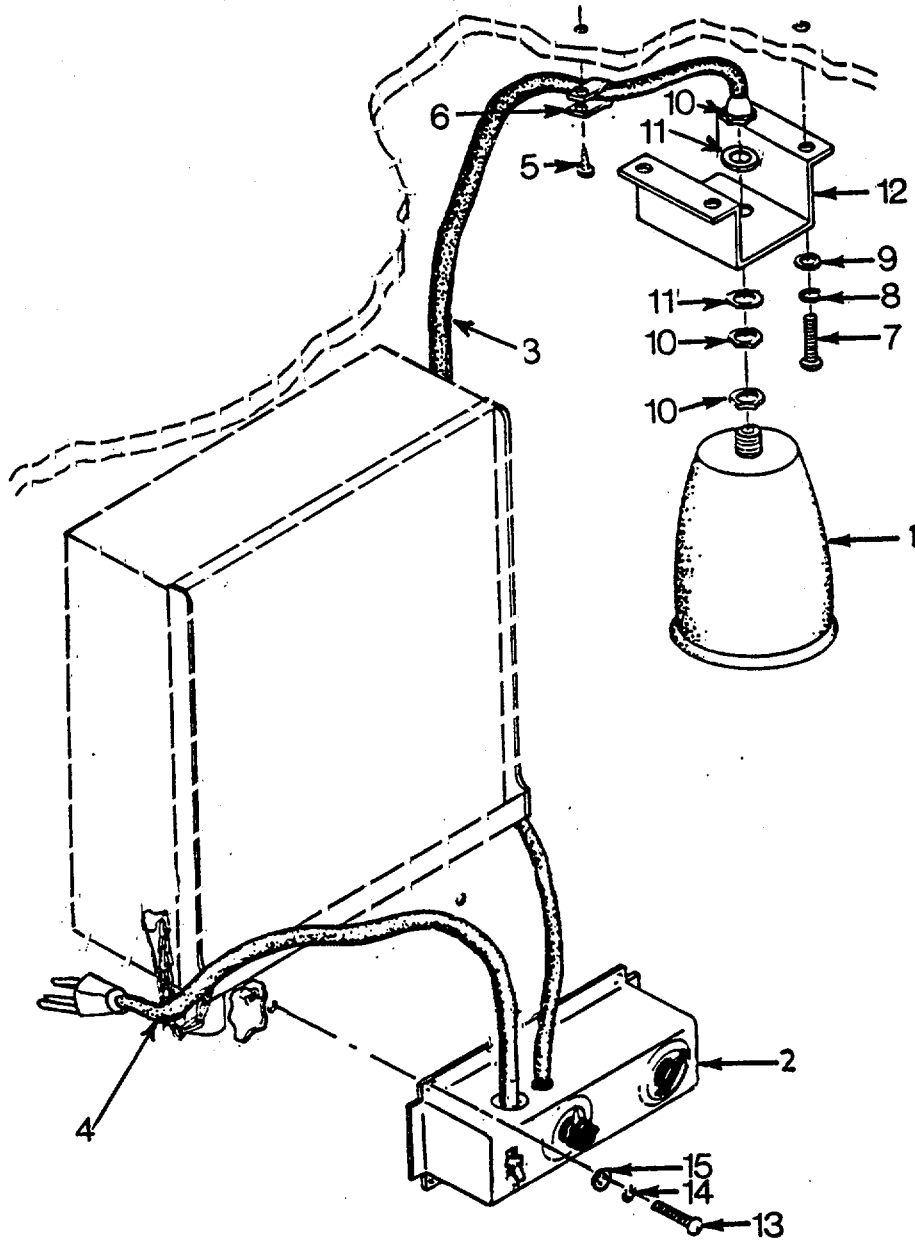

Figure 4-31. Pin-Point Light Assembly
a. Inspect. (See Figure 4-31.)
(1) Check darkroom pin-point light assembly (1) for security of mounting.
(2) Check darkroom timer (2) for security of mounting, broken or missing parts.
(3) Inspect power cord (3) for damage.
(4) Check light for proper operation.
(5) Inspect timer (2) power cord (4) for damage.
(6) Inspect timer control and intensity control for proper operation.
b. Replace. (See Figure 4-31.)
(1) Disconnect power cord (4) from wall receptacle.
(2) Remove screws (5) and cable clamps (6).
4-28. **PIN-POINT LIGHT ASSEMBLY.** - Continuedb. Replace. - Continued (See Figure 4-31.)
b. Replace. - Continued (See Figure 4-31.)
- c. Repair. (See Figure 4-31.)